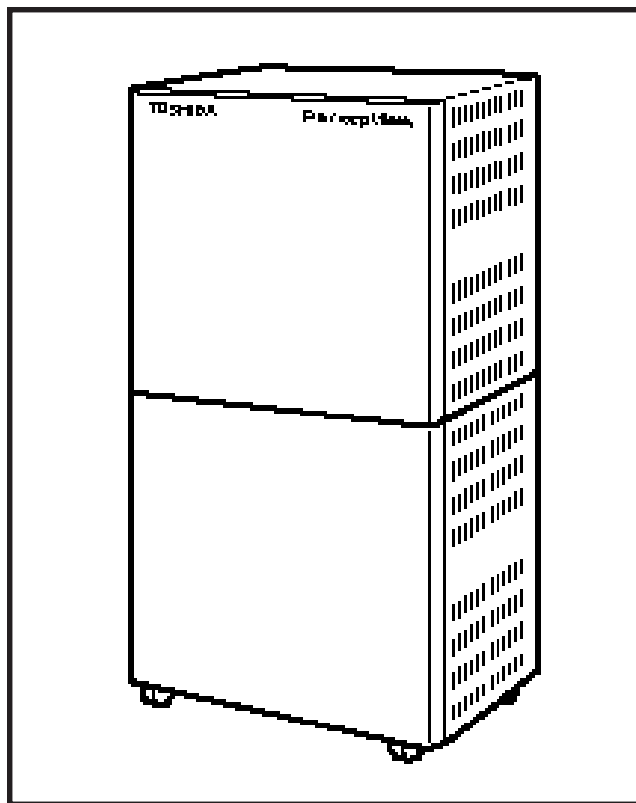

FIGURE 2-2—PERCEPTIONe EXPANSION CABINET
1.11 The expansion cabinet (NCEC-S) is a single cabinet that mounts on top of the basic cabinet and is secured in place with four bolts. The cabinet houses two shelves for printed circuit card installation. MDF connections are facilitated by amphenol connectors located on the rear of the cabinet (Figure 2-2).